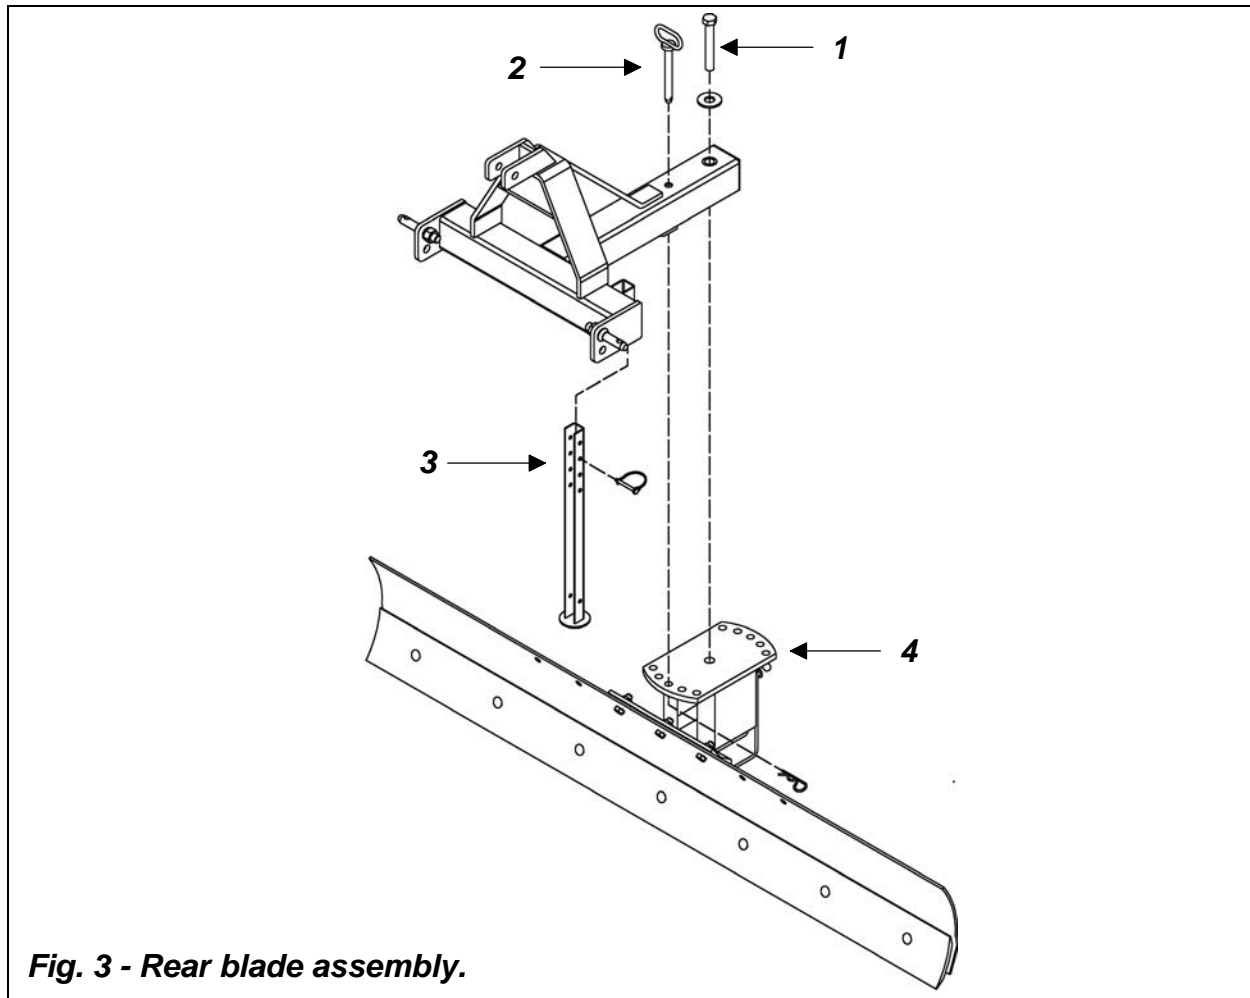

Fig. 3 - Rear blade assembly.
1. Securely block blade assembly with blocks or stands so that swivel plate (see #4, fig. 3) is facing upward.
2. Position the A-frame on top of the blade assembly, insert the swivel pin (see #2, fig. 3) and secure with hairpin cotter.
3. Insert the foot stand (see #3, fig. 3) in storage position to support the blade and secure with lynch pin.
4. Screw the pivot bolt (see #1, fig. 3) and washer (1"x6" bolt on the standard series or the 3/4"x5" bolt on the sub-compact series) to the welded nut on the blade assembly and tighten to correct torque⁴.
2. Loosen pivot bolt if necessary (see #1, fig. 3).
3. Remove the hairpin cotter and pull out swivel pin (see #2, fig. 3).